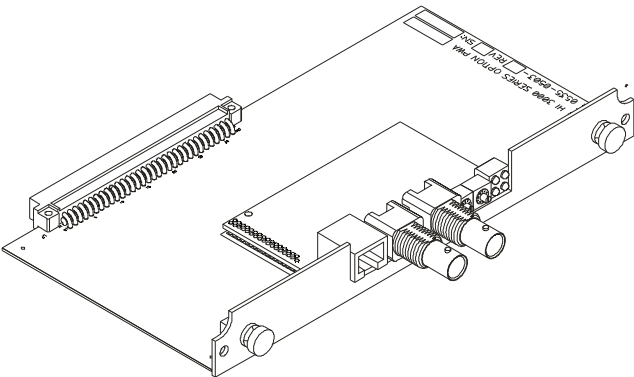

FIG. 47: CONTROLNET/OPTION CARD
- Step 1. Position the ControlNet Option Card with the back plane connector facing Option Slot #0. (See Fig. 47)